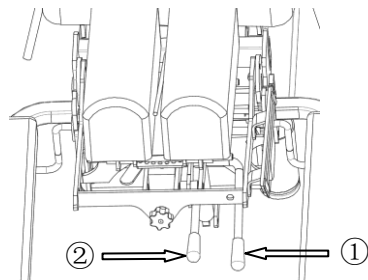

Figure 6
- Lift up the pull rod ① in Figure 6 to adjust head plate angle.
- Lift up the pull rod ② in Figure 6 to activate the head plate drop section. Then press down on the head plate to achieve the effect of the drop pressure.